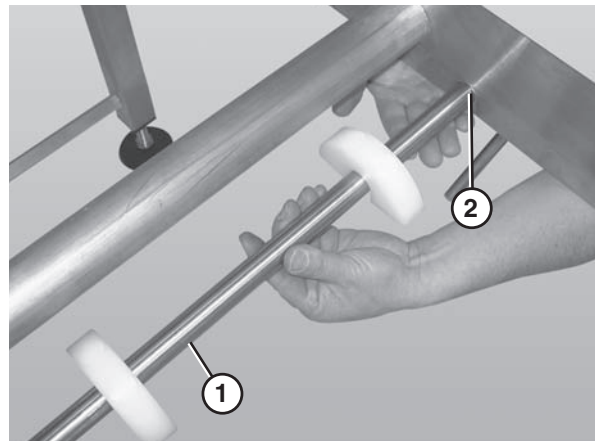

Figure 48
2. Slide the return shaft (**Figure 48, item 1**) up and through the large slot (**Figure 48, item 2**) in the frame (picture shown without the belt or wear strips).
3. Push up on the return shaft (**Figure 48, item 1**) and slide the notched end of the shaft through the small slot on the opposite side of the frame.